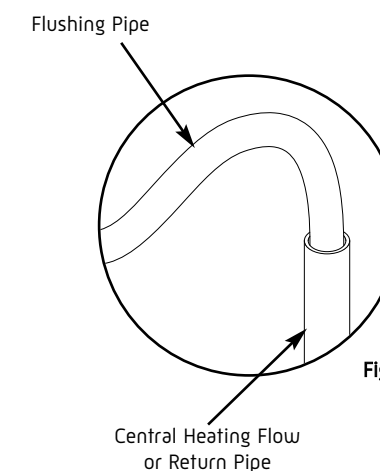

Fig. 30
11. Flush and clean the system using an appropriate cleanser (Fig. 30).